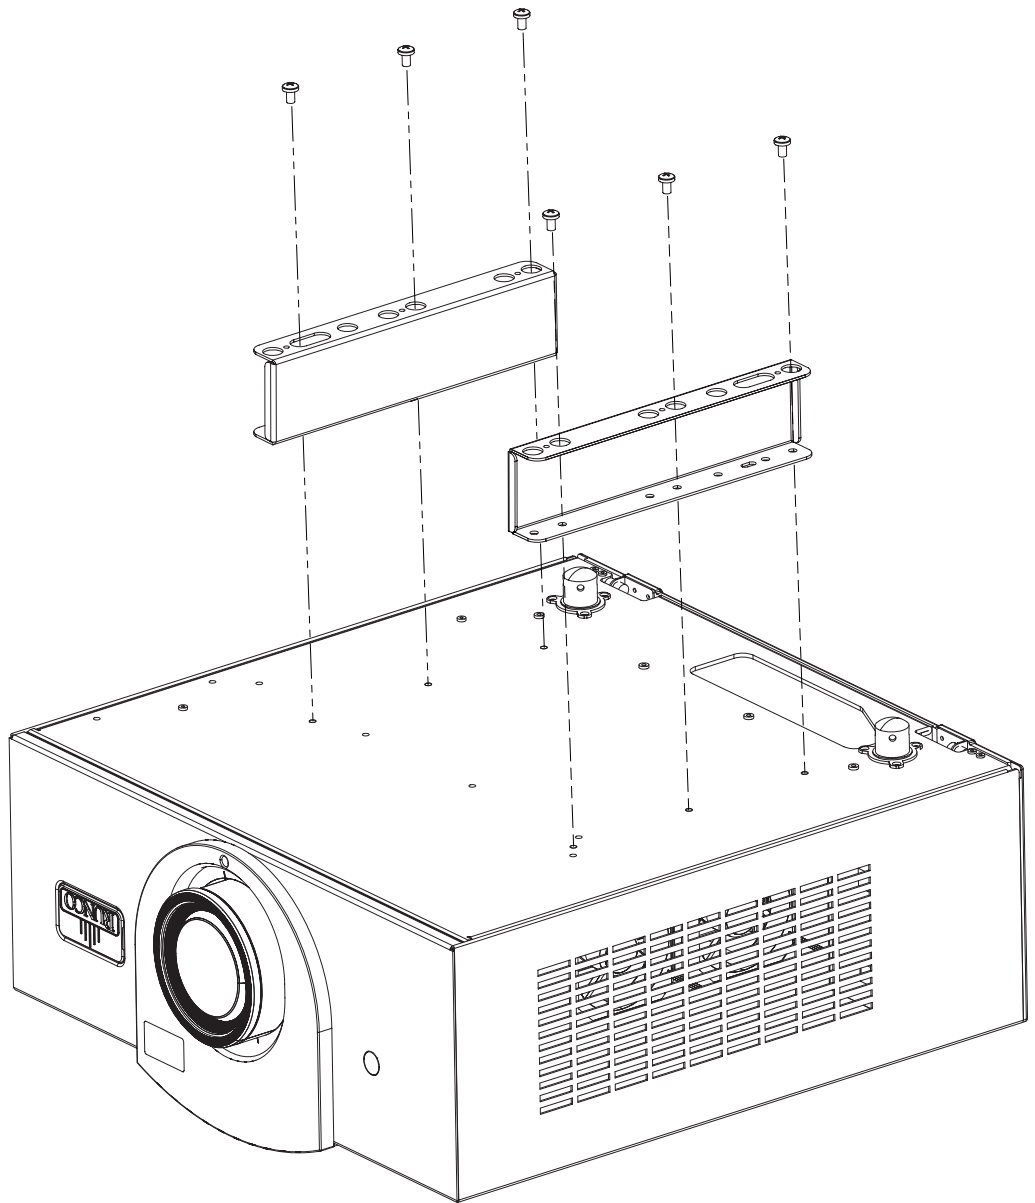

Figure 3-7. Q-650i with Ceiling Mount Adapters/Projector Stands
Using six (6) each of the supplied, M6 x 12mm Pan-Head Phillips screws (item #2), attach the AutoScope Ceiling Mount Adapters/Projector Stands (items #3 and #4) to the projector as shown in Figure 3-7.